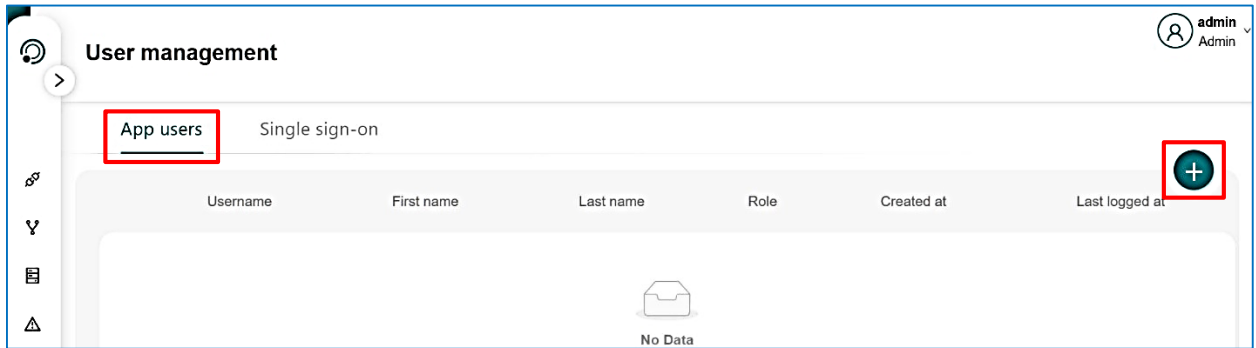

**Figure 6 – Opening the User Management Window**
3. In the menu that opens, click **User Management** (see Figure 6).